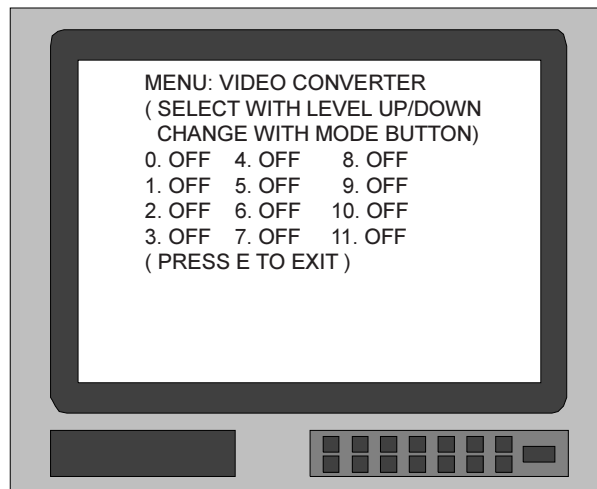

Figure 19
*Note: The Video Converter Setup Menu display includes a “0” input which corresponds to Tuner, that does not have a matching video input. This was included in the On Screen menu only to maintain a display consistency. See Figure 19. The Video Converter Assignment Chart therefor does not include this input.*
2. Press pushbutton number 7 on the Remote Control to access the VIDEO CONVERTER MENU, which will appear on the Monitor/TV screen. See Figure 19.